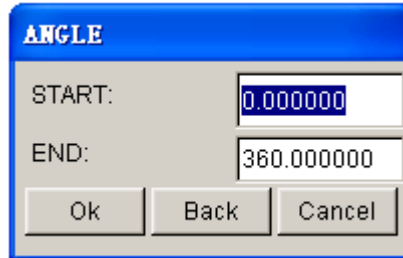

Figure 5.2.3 Angle dialog box
- Enter the start and end angles in the dialog box as illustrated in Figure 5.2.3. Select OK, and the surface will be generated after the dialog box is closed.